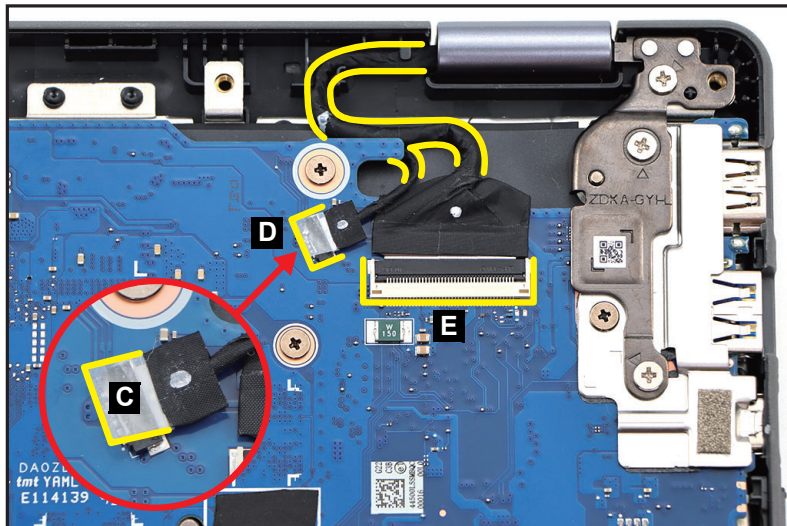

Figure 1-19. LCD Module Removal
3. Detach the mylar (C) securing the LCD cable connection. Then disconnect the cable from the mainboard connector (G-sensor) (D) (Figure 1-19).
4. Disconnect another LCD cable from the mainboard connector (E). Then unroute the cable from the cable guides as shown in Figure 1-19.